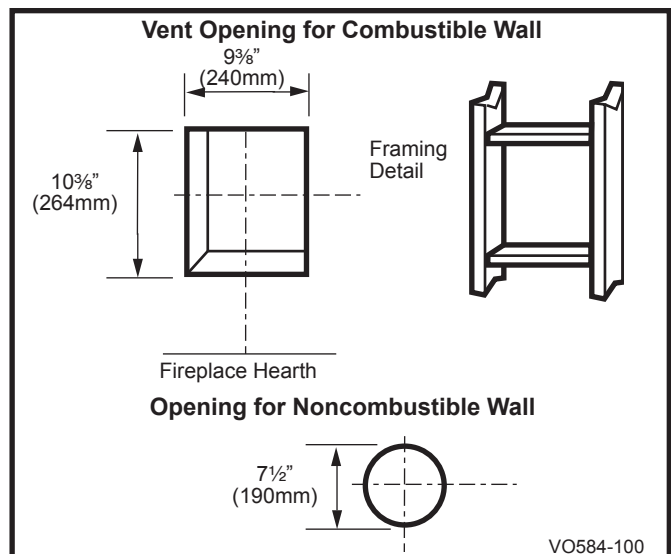

Fig. 15 Locate vent opening on wall.
**Combustible Walls** (Fig. 15): Cut a 10 3/8" H x 9 3/8" W (264 x 240 mm) hole through the exterior wall and frame as shown.
**Noncombustible Walls** (Fig. 15): Hole opening must be 7 1/2" (190mm) in diameter.